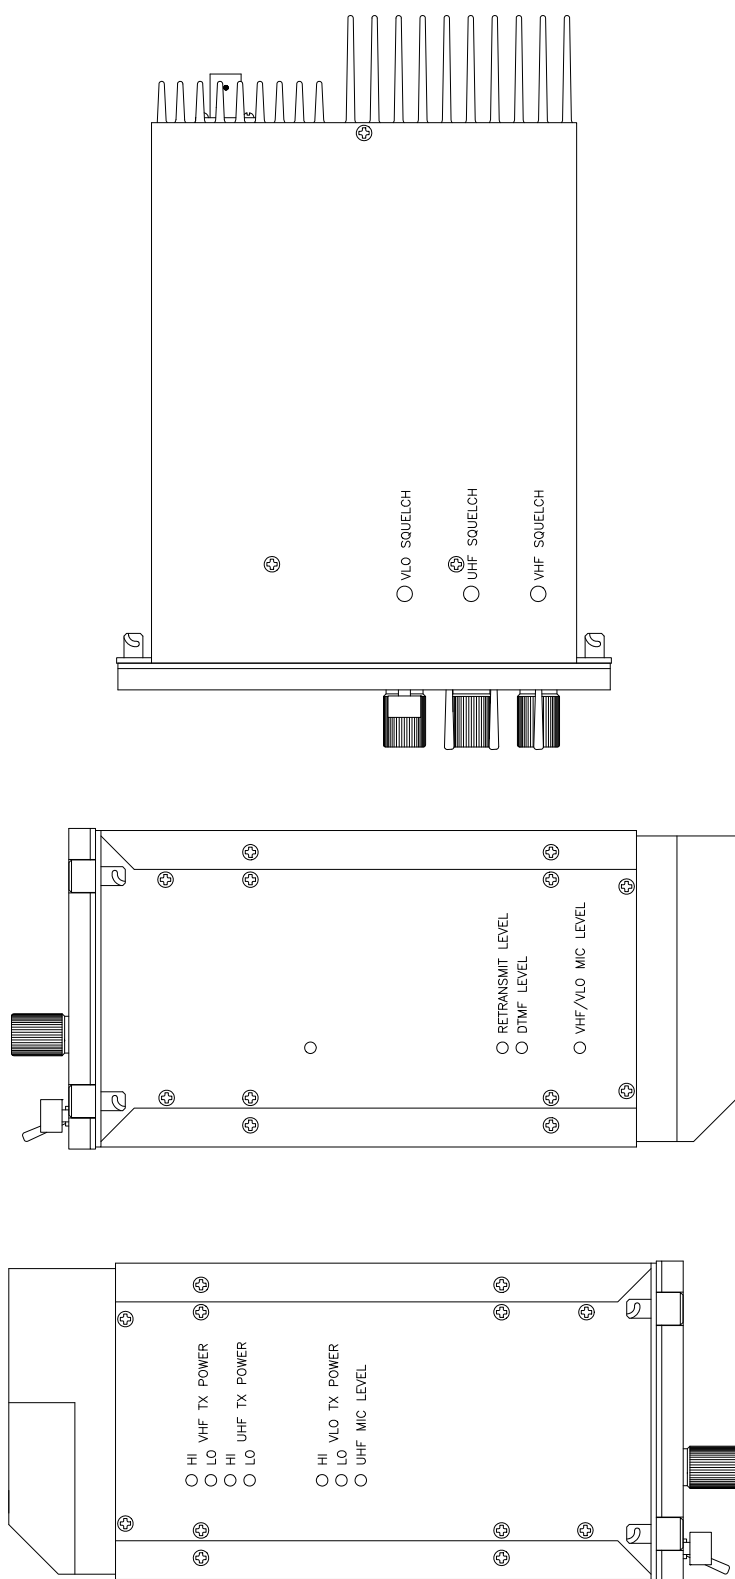

FIGURE 3.4 External Adjustment Access Holes
3. In low power mode, set the low power adjustment potentiometer on the left side of the chassis to produce 1.0 watt of RF output power (See Figure 3.4).